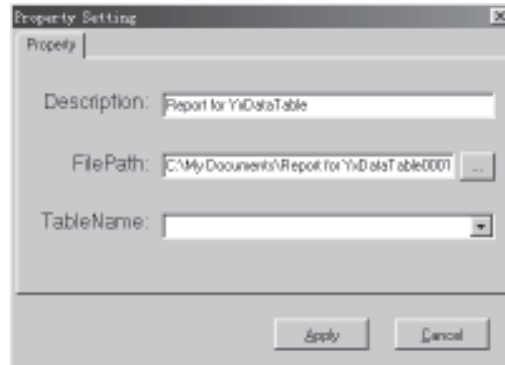
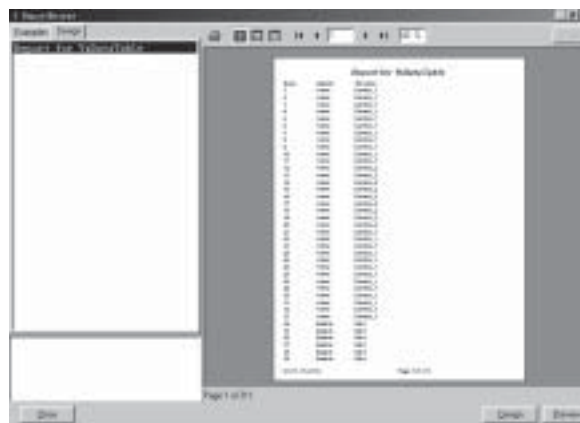

**Fig. 8-22 Click the Right Key of the Mouse**
**Fig. 8-23 Select the ;°Append;±Function Option**
2.1 Add the Designed Report to the Table List. Click the right key of the mouse in the listing table, and the dialogue block as in Fig. 8-22 will be shown. Select the function option ;°Append;±and the dialogue block as in Fig. 8-23 will be shown.
2.2 Delete the listing option from the listing table. First select the listing option to be deleted and then click the right key of the mouse. Then the dialogue block as in Fig. 8-22 will be shown. Select the `°Delete;` function option.
2.3 Modify the properties of the listing option. First select the listing option to be modified and then click the right key of the mouse. Then the dialogue block as in Fig. 8-23 will be shown. Select the `°Property;` function option, then the dialogue block as in Fig. 8-26 will be shown. In the dialogue block, modifying the `°Description;` and `°FilePath;`, and then click the button `°Apply;`. Thus the modification is completed.